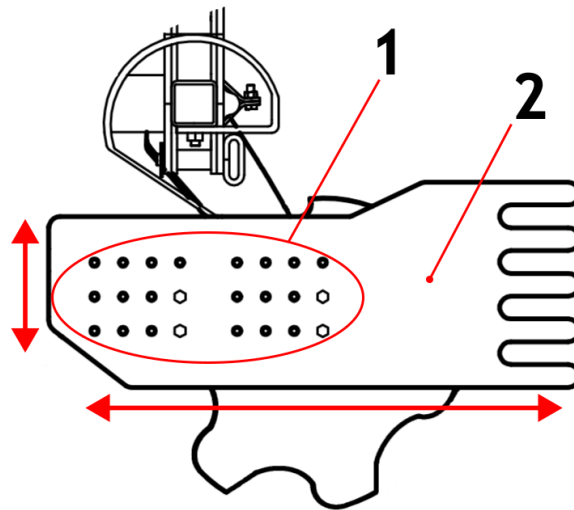

Figure 19: Adjustment of the side screen position (1 – adjustment holes for the side screen position relative to the bracket, 2 – side screen)
The side screen should be positioned and locked with a screw at a height so that it is above the soil surface and not exposed to impacts from stones or the accumulation of crop residues. If necessary, it should also be adjusted forward or backward by mounting it on the available adjustment holes (Fig. 19, item 1) so that it prevents the soil thrown by the outer front disc from falling off and collects the furrow behind the outer rear disc.